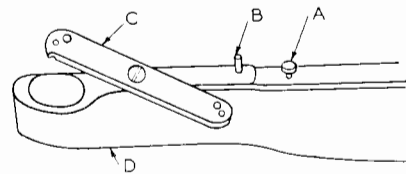

Fig. 309. Removing the shuttle.
1. To remove the shuttle, press the button, *A*, Figure 309. This lowers
**Timing the Machine.** Should it become necessary to replace parts in the arm of the machine (D, Fig. 309), you can easily get the machine out of time. This should not cause alarm, however, since adjusting the timing is a simple operation.
Upon removing the cover plate at the bottom of the arm, D, Figure 309, two types of pinions can be seen (Figs. 314 and 315). Since pinion A, Figure 314, is merely a following pinion, its position need not cause any